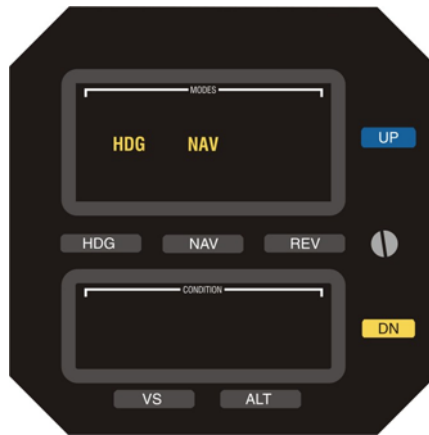

Fig. 3-6. AP Display, HDG Mode Engaged, NAV Mode Armed
To select an intercept angle other than 45°, set the Heading Bug to the desired intercept heading on the compass card, such that the difference between this heading and the desired course is the intercept angle. Then set the Course Pointer (HSI) or OBS (DG) to the desired course. Press and hold the HDG mode selector switch, and then press the NAV mode selector switch to engage the heading mode and arm the navigation mode. The HDG and NAV annunciations will appear as shown in Fig. 3-6, to acknowledge this.